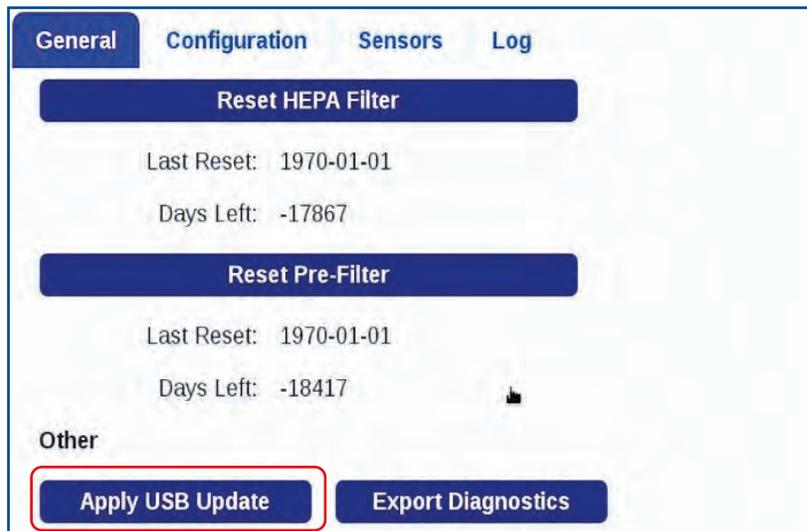

Fig. 86
3. On the **General Tab**, press the 'Apply USB Update' button (Fig. 86).